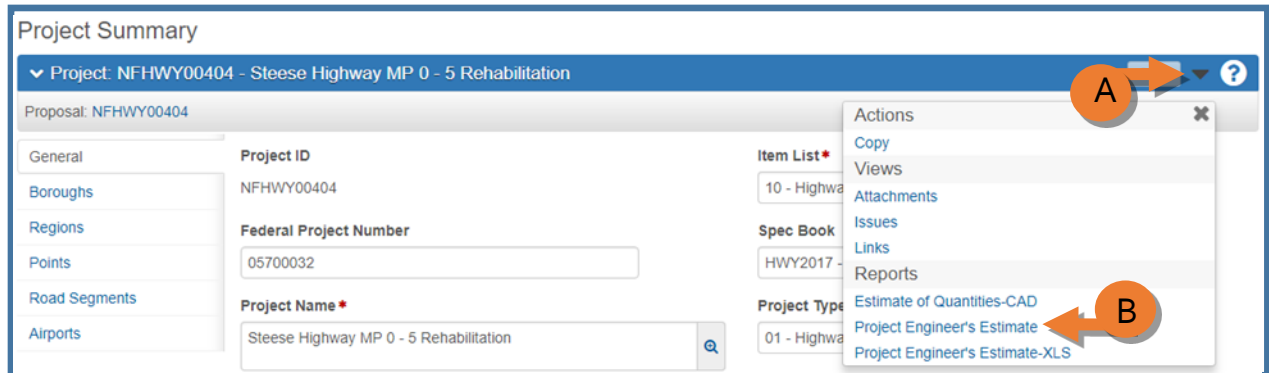

Figure 3.36
1. From the Project Overview component on the dashboard, search for and select your project. The Project Summary component will appear (*Figure 3.36*).
2. (A) Expand the Project Summary component **action menu** on the right side of the header.
3. (B) Select **Project Engineer's Estimate**.